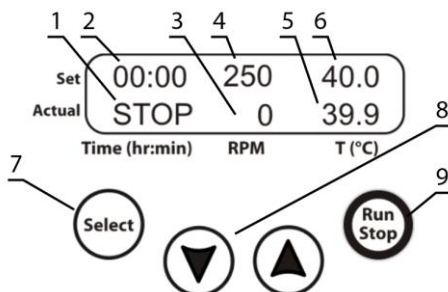

Figure 1. Control panel
- Previously set time (fig. 1/2), set speed of magnetic stirring element (fig. 1/4) and set temperature of water (fig. 1/6) in the upper line (**Set**);
- Time indication (STOP, fig. 1/1), current speed of magnetic stirring element (fig. 1/3) and current temperature of water (fig. 1/5) in the lower line (**Actual**).
- 5.4. **Settings.** Press the **Select** key (fig. 1/7) to choose the parameter to change. Each pressing of the **Select** key consecutively activates the parameters. The active parameter is flashing. Use the **▼** and **▲** keys (fig. 1/4) to set required value. Pressing the key for more than 2 s will increase the increment.
- 5.5. **Temperature setting.** Activate and set the temperature (**T(°C)**, fig. 1/6). Heating starts. The actual temperature value appears in the lower line of the display (fig. 1/5).
- 5.6. **Magnetic stirring element rotation speed setting.** Activate and set the rotation speed in rpm (**RPM**, fig. 1/4). The actual speed value appears in the lower line of the display (fig. 1/3).
- 5.7. **Time setting.** Activate and set the desired time in hours and minutes (**Time (hr:min)**, fig. 1/2).
- 5.8. Press the **Run/Stop** key (fig. 1/9) to start the timer. The elapsed time interval appears in the lower line of the display (fig. 1/1).
Caution! Stopping the timer does not stop the heating/temperature maintenance process. The heating can be stopped by reducing the temperature below 25°C using the ▼ key (fig. 1/4) until the OFF indication appears on the display.